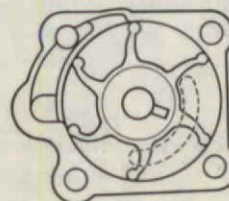

Figure 48. Position of Impeller Pin Groove.
- Install impeller. Grooves for drive pin should be open when viewed from the bottom. Figure 48.